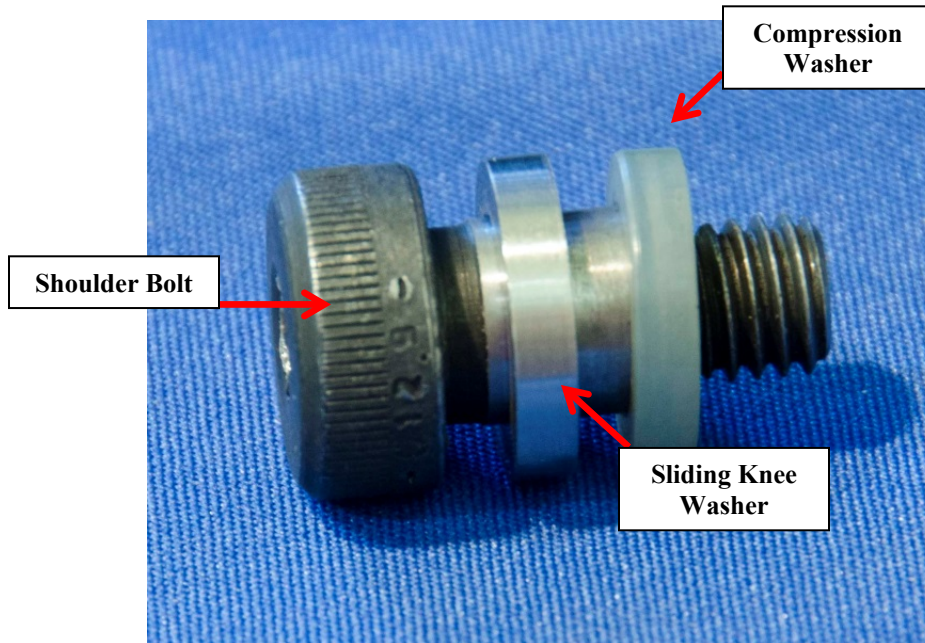

Figure 11-15. Shoulder bolt and washers for knee slider installation
- 11.2.2.10 Install the Inboard (472-5320) and Outboard (472-5330) Knee Sliders to the Knee Bone Assembly (472-5350) using the Shoulder Bolt (472-5302), the Compression Washer (472-5304) and the Sliding Knee Washer (472-5303) (Figure 11-15 to Figure 11-17).